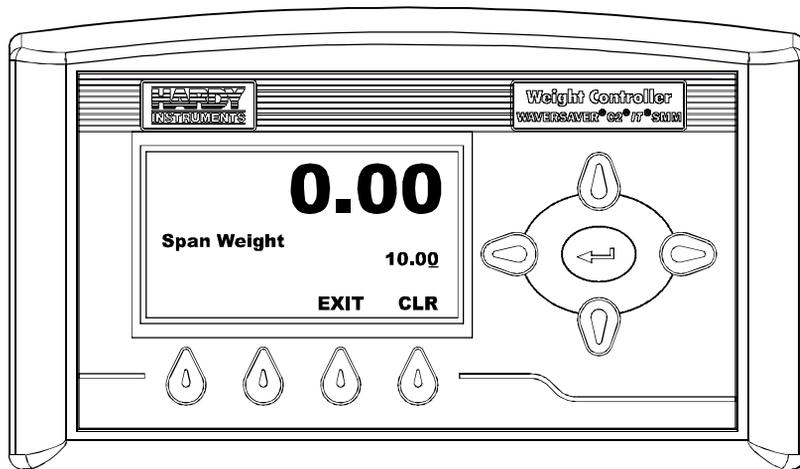

FIG. 315 SPAN WEIGHT MENU
Step 13. Press the Enter button. The Span Weight Menu appears. (See Fig. 315) The last Span Weight is displayed.